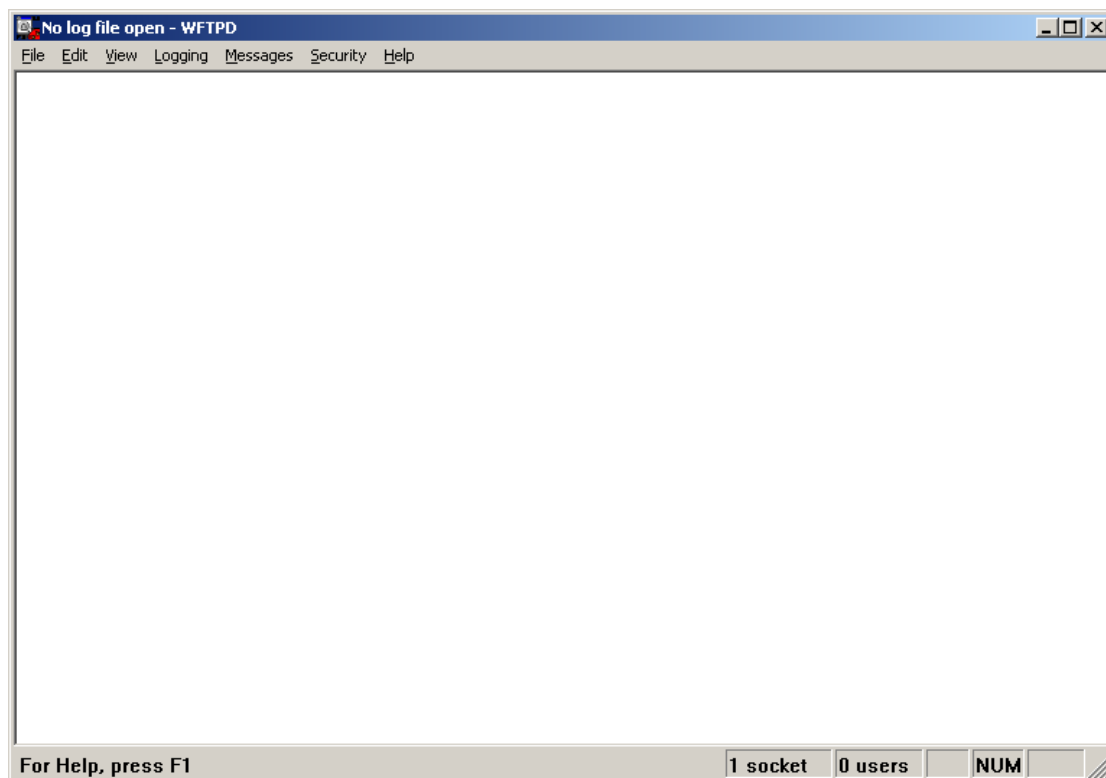

Fig 7.1 Interface
1. Run wftpd32.exe (FTP server software). As shown in fig 7.1